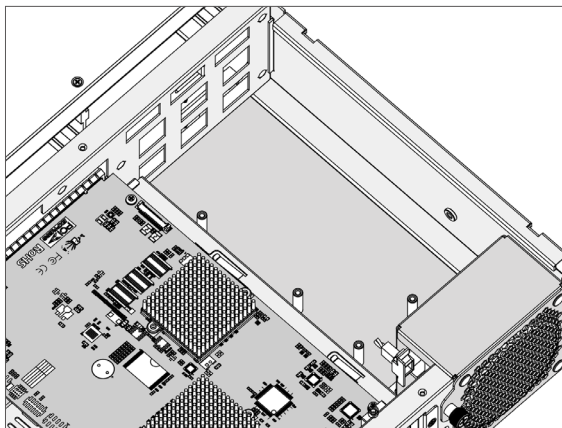

Figure B-2, Removing the Cover
1. Loosen the screws and remove the cover from the ARC-8050T5U-12R enclosure, as shown in Figure B-2.